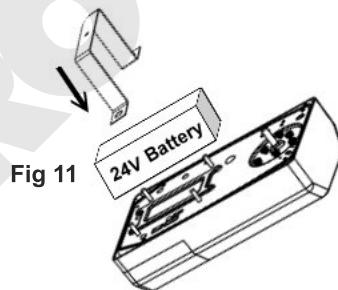

Fig 11
STEP 1 (Fig.11)
STEP 2 (Fig.11)